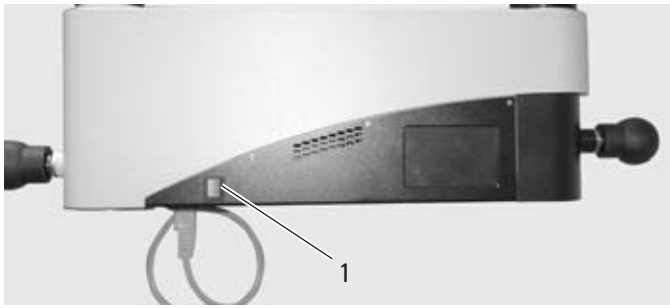

Fig. 1
- ⇒ Connect the Leica M620 surgical microscope to the power supply and switch on the power switch (1) (Fig. 1).